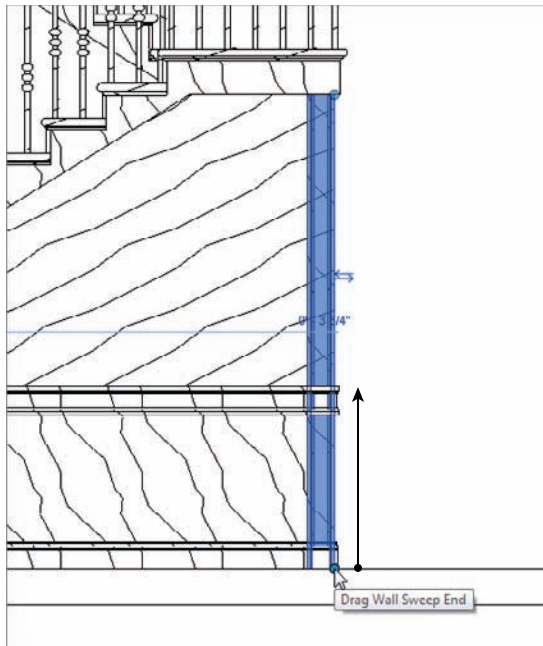

FIGURE 16.19 Dragging the sweep up to the chair rail
13. Select the vertical trim. Notice the grips on the top and the bottom. Pick the bottom grip, and drag it up to meet the top chair rail, as shown in Figure 16.19.